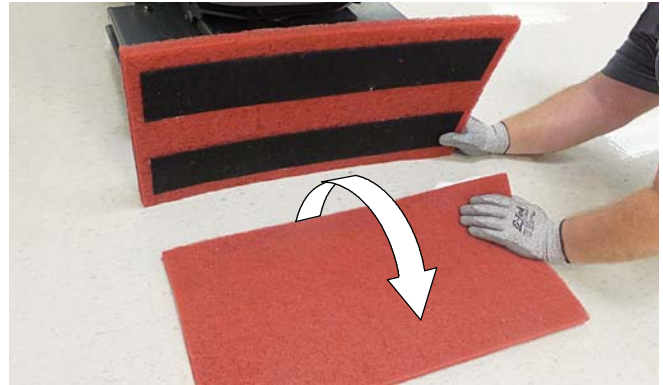

FIG. 109
- Orbital scrub head - Turn the working pad over or replace when worn (Figure 109).